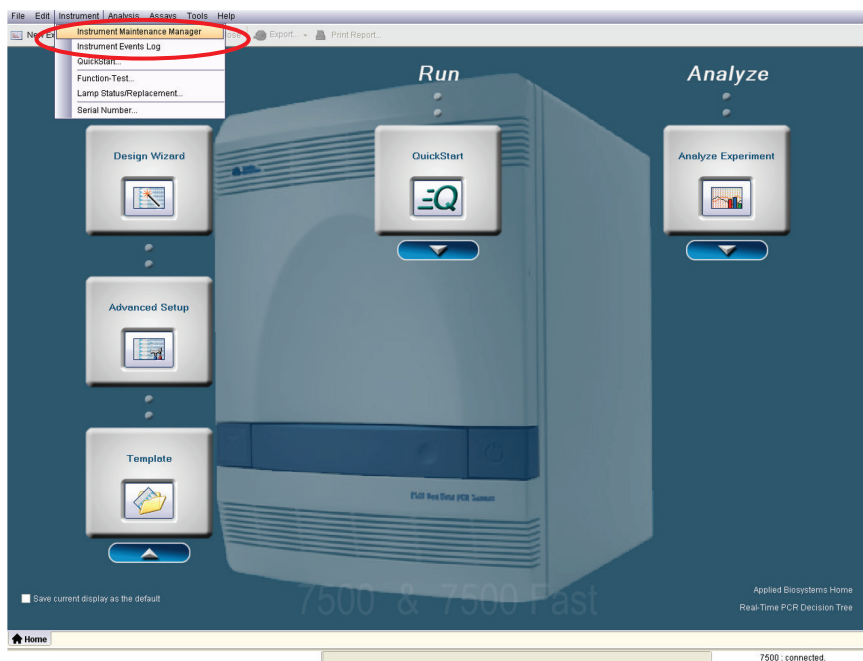

Figure 1. Selecting the Instrument Maintenance Manager.
11. Open the HID Real-Time PCR Analysis Software v1.1 or 1.2 and select the **Instrument Maintenance Manager** from the instrument menu (Figure 1).